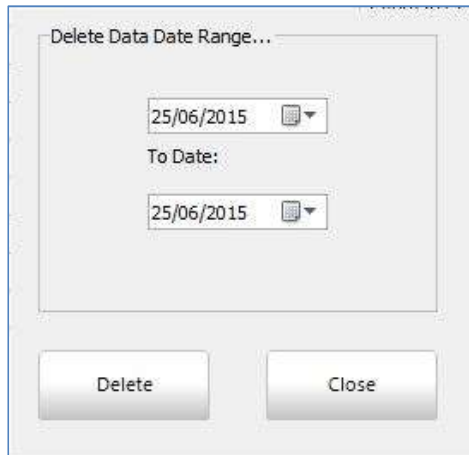

Figure 17
- Select the data range to be deleted (**Figure 17**)